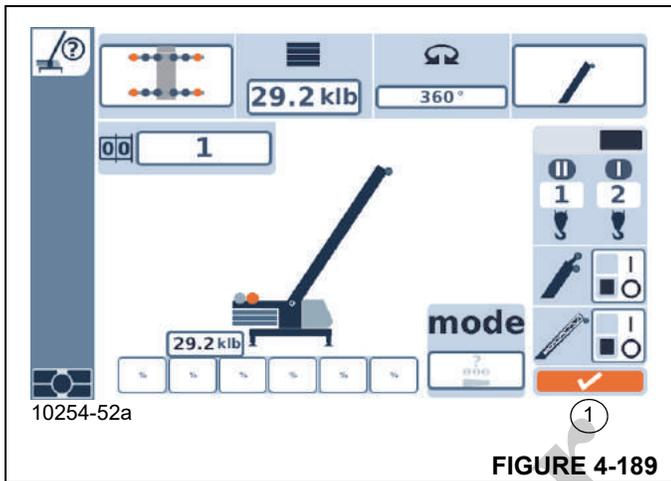

FIGURE 4-189
- Select the symbol (1, Figure 4-189).